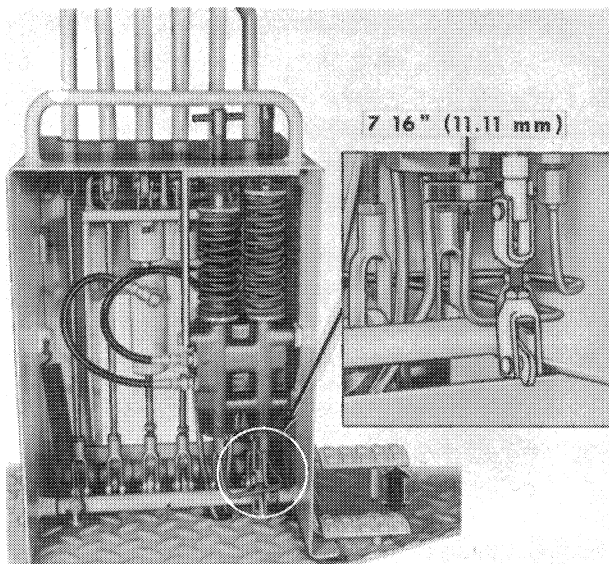

Figure 19
**Shut-off Valve Spool Travel Adjustment:** Adjust the clevis connecting the valve spool to the foot pedal rod to allow  $7/16 \pm 1/32$  inch ( $11.01 \pm 0.79$  mm) spool travel when the foot pedal is depressed the full distance (against the platform). See Figure 19. The pedal must contact the platform prior to engagement of the internal stop within the valve.